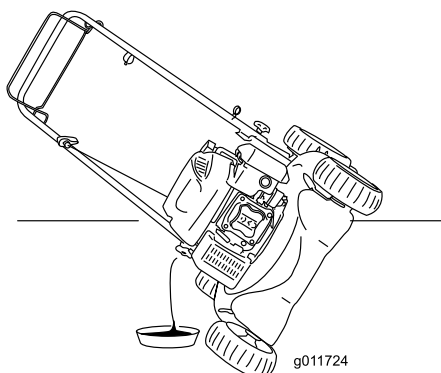

Figure 37
5. Tip the machine onto its side, with the dipstick down, to drain the used oil out through the oil fill tube (Figure 37).